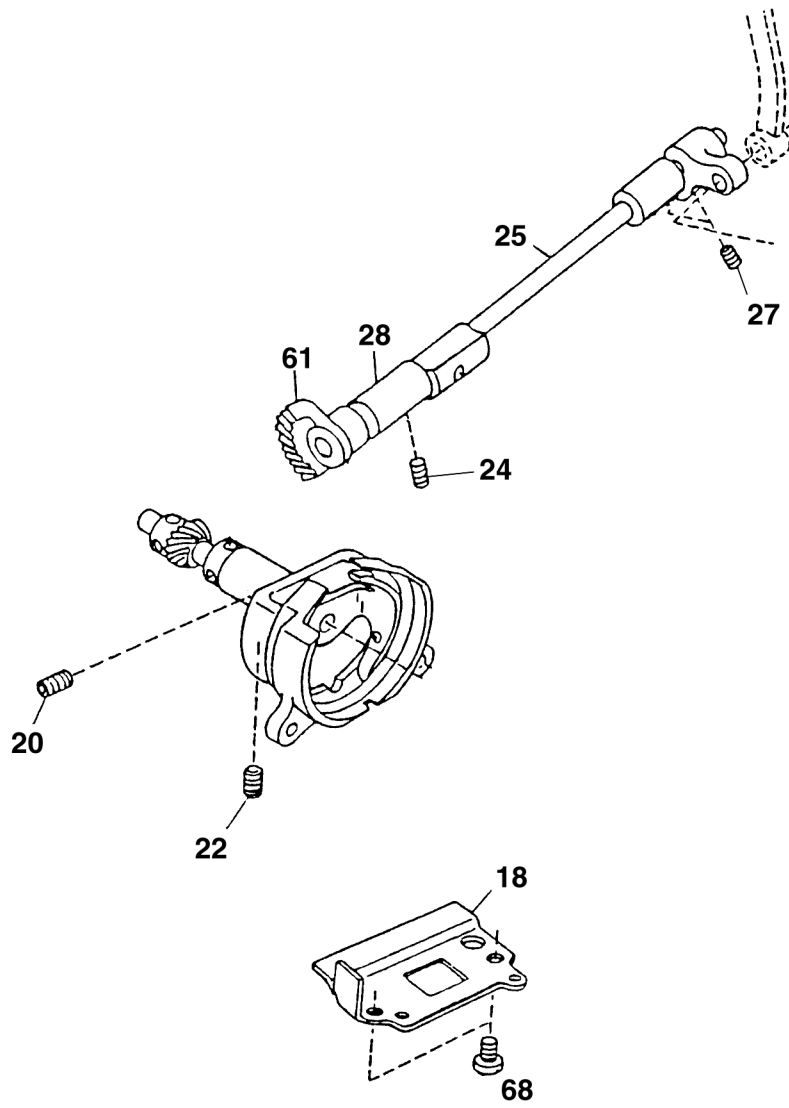

Fig. 30
- Disconnect pull spring on gear housing cover 18 (fig. 30).